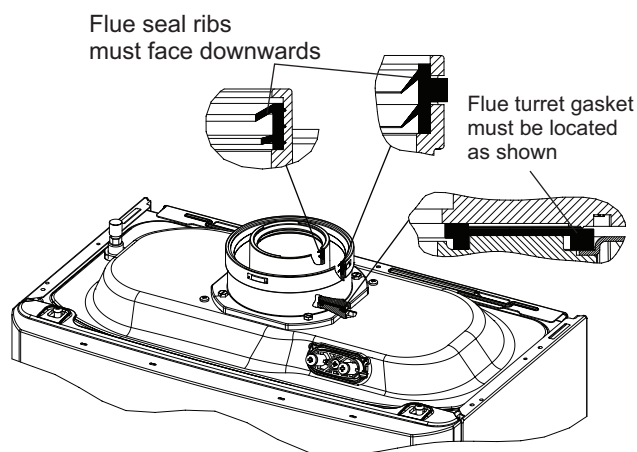

Fig. 5.6
4. Check the 60mm and 100mm double lip seal gaskets are fitted with the lips facing downwards. See Fig. 5.6.